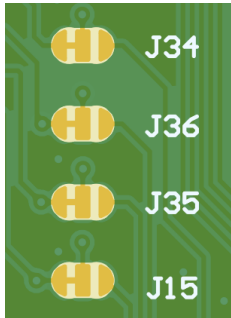

Figure 24: Solder jumpers J15, J34, J35, and J36
- Toggle the state of jumpers **J15**, **J34**, **J35**, and **J36** shown in Figure 24 to access Flexcomm1 interface in mikroBUS.